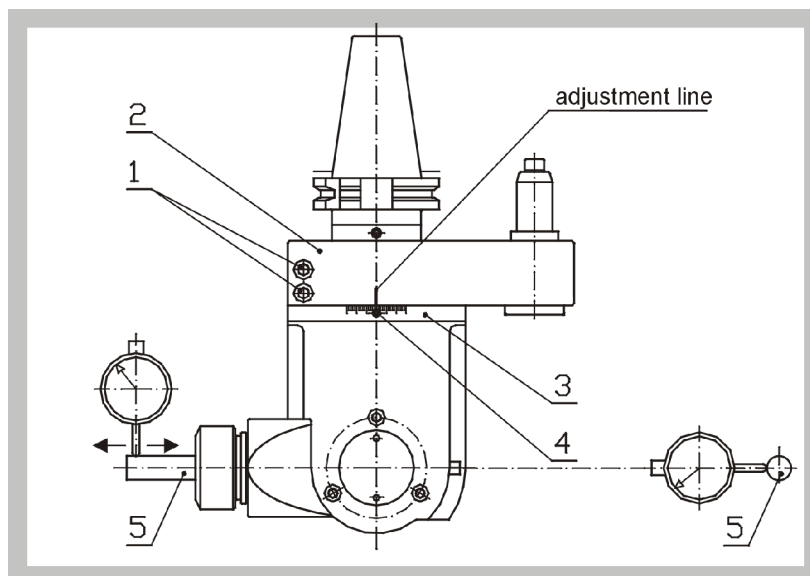

Fig. 19
6.2 Setting of the Angular Position of the Head Body – Models PVI (PVM) (Fig. 19)
6.3. Resetting of the Angular Scale (Fig. 19)